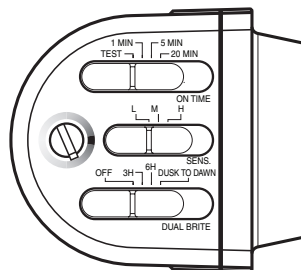

Figure 7
2. Slide the sensitivity (SENS) switch to the “LO” position, the ON-TIME switch to the TEST position, and the DUALBRITE switch to the OFF position (see Figure 7).